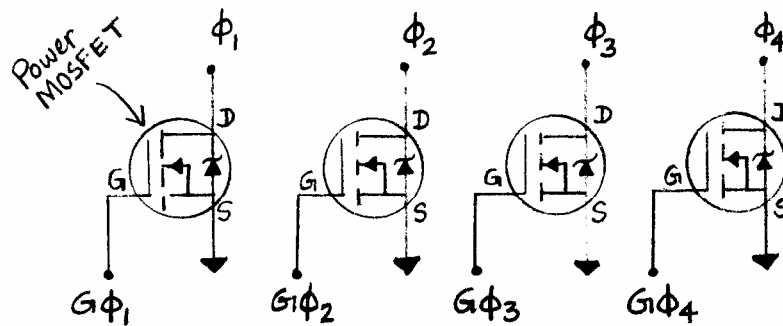

Figure 4: Current amplification circuit
3. Build and connect the circuits shown in Figure 1 and Figure 4. Your **gate phase** ( $G\phi$ ) signals will be generated by the corresponding **Digital I/O Channels** on your CB-68LP connector block. As specified by your VI, obtain  $G\phi_1$  from DIO4, obtain  $G\phi_2$  from DIO5, obtain  $G\phi_3$  from DIO6, and obtain  $G\phi_4$  from DIO7.